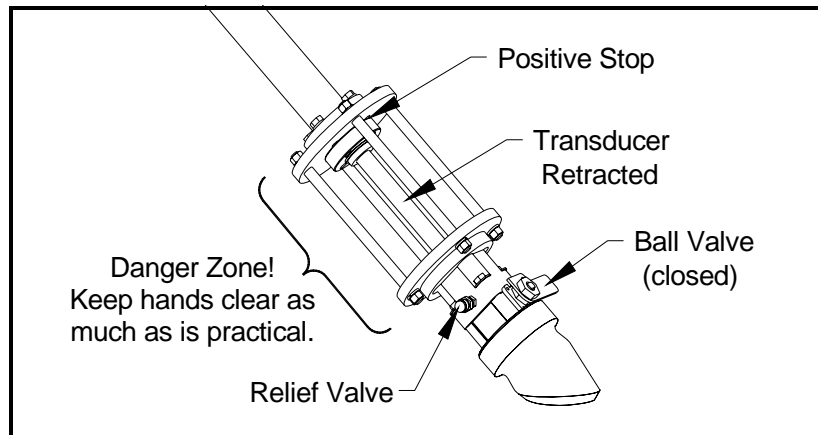

Figure 6-11: Transducer Retracted
7. Using the hydraulic pump valve, slowly release pressure from the hydraulic ram until the transducer has retracted to the positive stop in the mechanism (see Figure 6-11 below).
6. Slide the T11 transducer back to the positive stop of the insertion mechanism (see Figure 6-11 on page 6-11). Verify that the pressure relief valve is closed and torqued to 15 ft-lb.